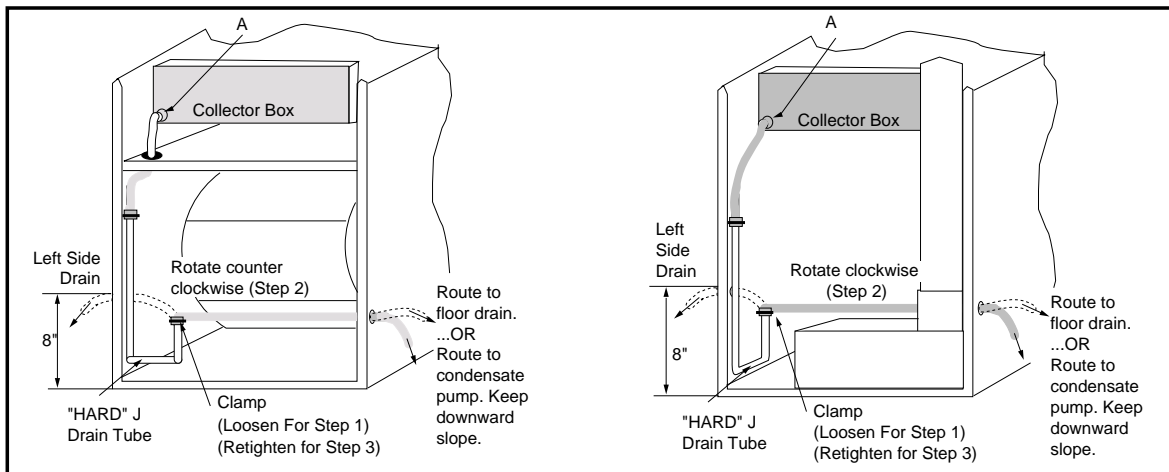

Figure 20. Furnace with Condensate Drain Trap Assembly
The condensate drainage system is internal to the furnace. The drain may exit either the left or right side of the furnace cabinet. For a right side drain, simply extend the tubing out of the 7/8" hole in the cabinet (See Figure 20).
1. Loosen the clamp on the soft exit tube (see Figure 20.)
The condensate should drain from the plastic collector box (location A in Figure 20) as droplets or a small stream. If you notice the furnace has operated for more than 5 minutes without draining or the red status light on the control board is pulsing a 2-blink code follow the steps below.
1. Remove the collector box soft tube at location A in Figure 20 and insure the exit from the collector box is clear of any debris or obstructions.